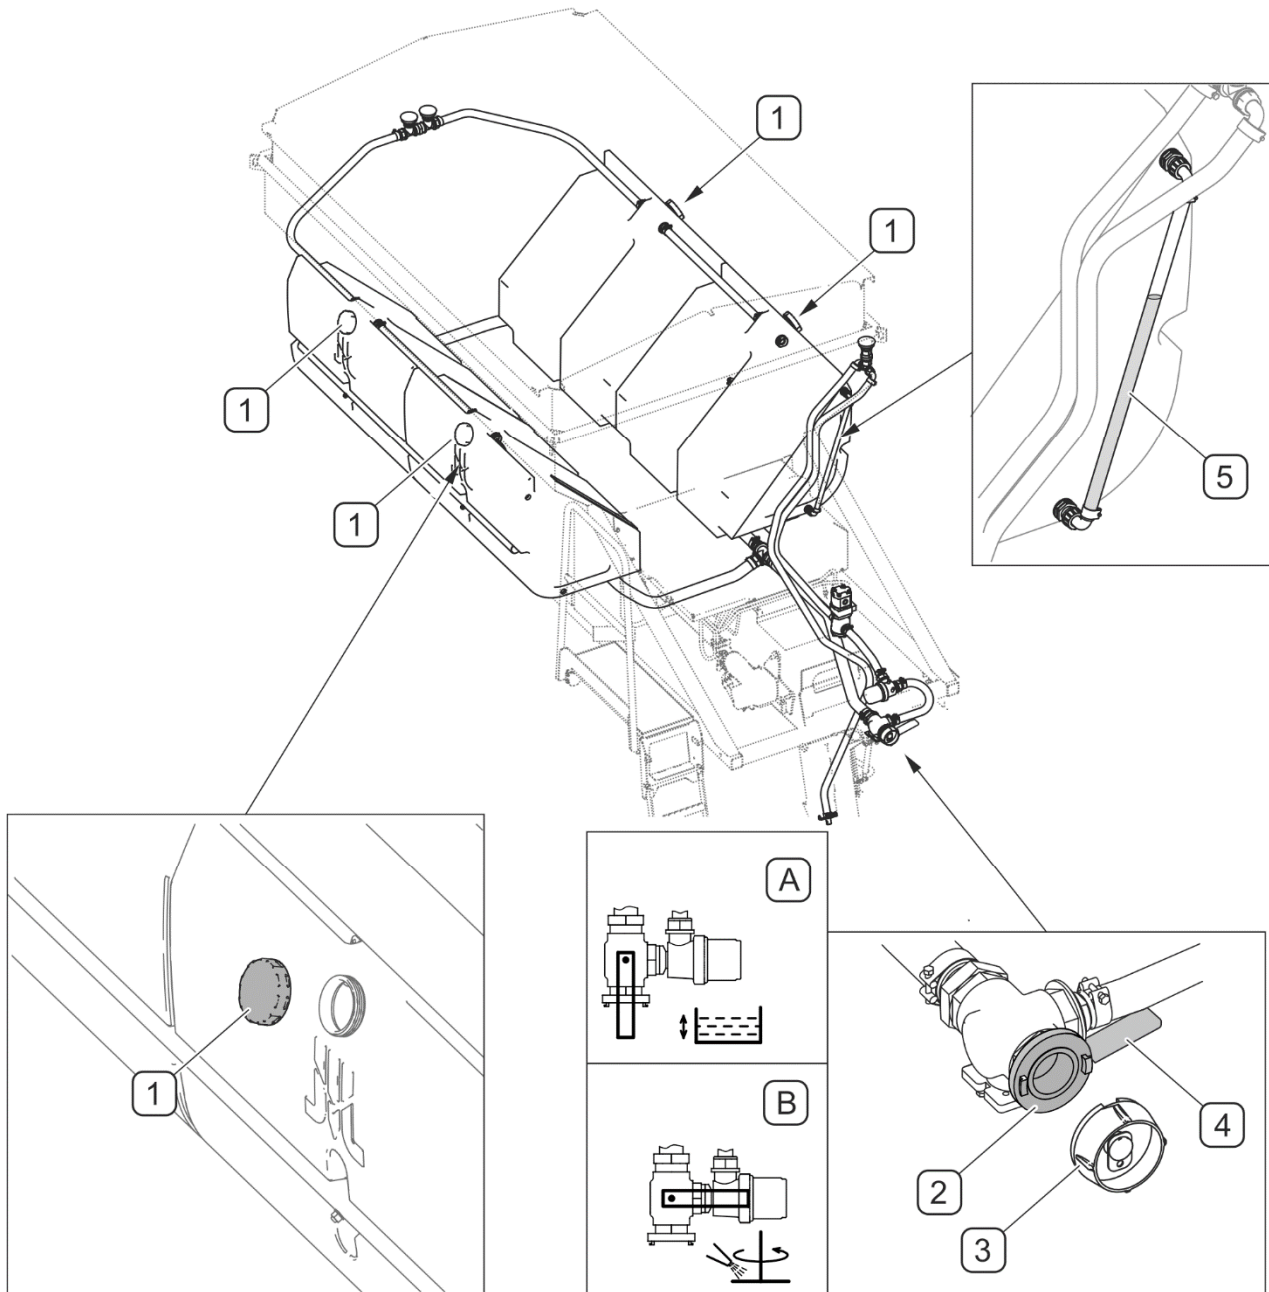

FIGURE 4.21 Filling the tank with brine
The tanks can be filled with brine (FIGURE 4.21) through tank openings secured with plugs (1) or through STORZ 52C connection (2) secured with a plug (3).
In order to fill the tanks with brine (FIGURE 4.21) through connection (2):
- set valve lever (4) in position (B),
- unscrew plug (3) and connect filling hose to connection (2),
- set valve lever (4) in position (A) and start filling,
- brine level is checked on brine level indicator (5) located on the tank,
- when filling is completed, set lever (4) to position (B),
- disconnect filling hose and tighten plug (3).